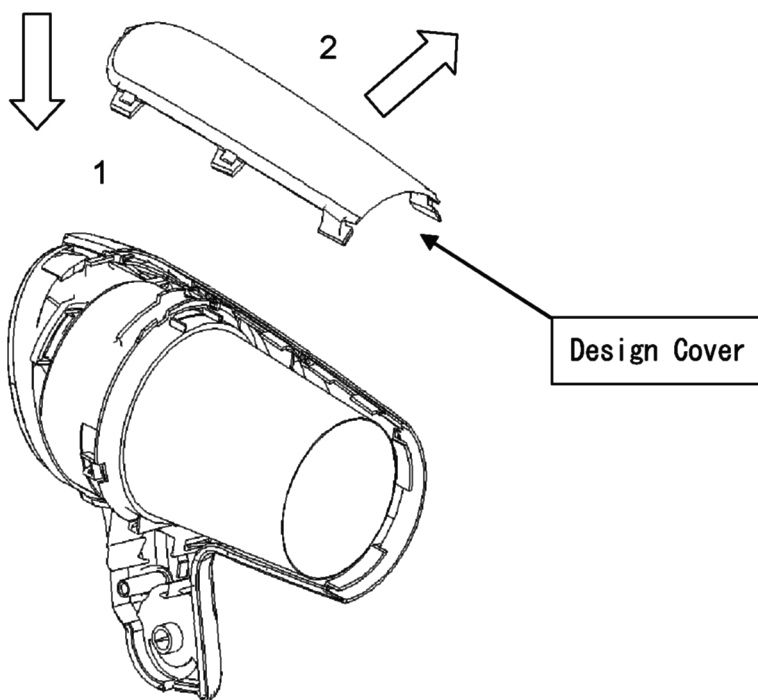

Figure 15
4. Assemble a Design cover with a Housing B as figure 15.